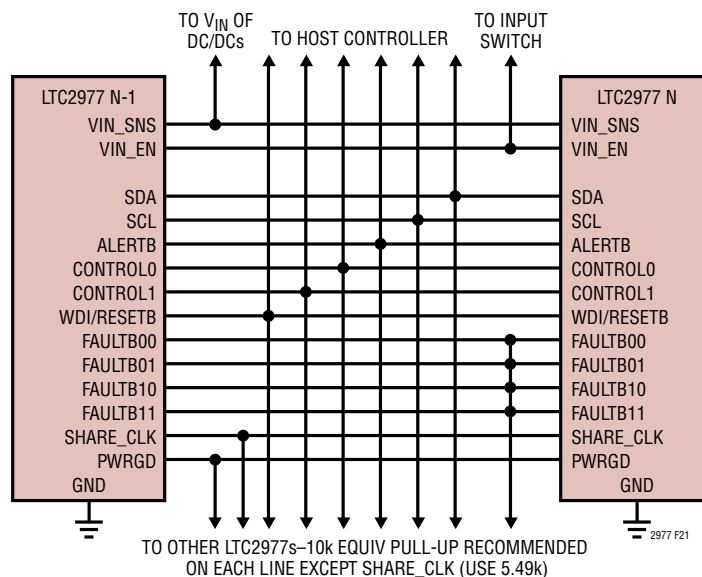

Figure 21. Typical Connections Between Multiple LTC2977s
Figure 21 shows how to interconnect the pins in a typical multi-LTC2977 array.
- The FAULTBz $n$  lines can be connected together to create fault dependencies. Figure 21 shows a configuration where a fault on any FAULTBz $n$  will pull all others low. This is useful for arrays where it is desired to abort a start-up sequence in the event any channel does not come up (see Figure 22).
- PWRGD reflects the status of the outputs that are mapped to it by the MFR\_PWRGD\_EN command. Figure 21 shows all the PWRGD pins connected together, but any combination may be used.